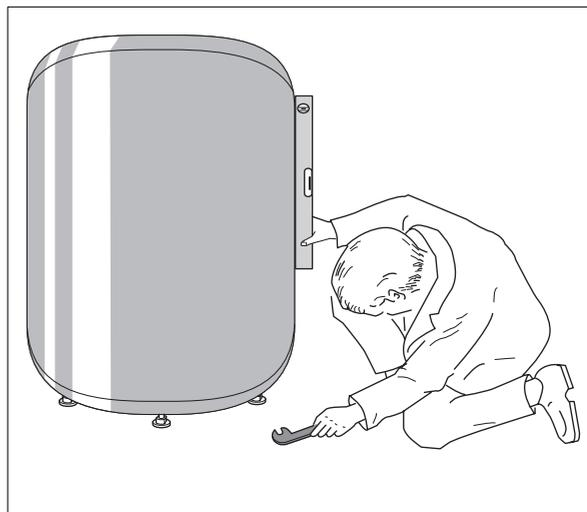

Fig. 5 Adjusting tank leveling bolts (sample picture)
- Level tank by adjusting the leveling bolts under the tank (Fig. 5).